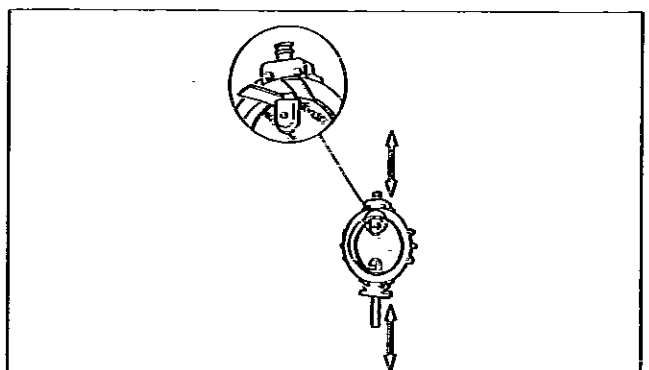

Fig. 14. Protecting the disc during disassembly and assembly
- Drill the holes carefully to the centre of the pins (14). Choose a drill 0.2-0.5 mm smaller than the diameter of the pin.
- Detach the screws (26) and the blind flange (10) and remove the gasket (18).
- Place rubber strips or other protection between the disc edge and the body and remove the shafts (see Fig. 14).
- Place the disc horizontally on a surface so that the flat side of the disc lays against the surface. Lift the body around the disc so that the shaft bores are aligned with the bores in the disc. Protect the disc (see Fig. 14).